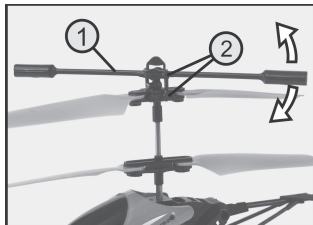

Figure 7
Move the centrifugal weight rod up and down by hand on one side (see arrows in Fig. 7), and check that the ball joints (2) can move freely.